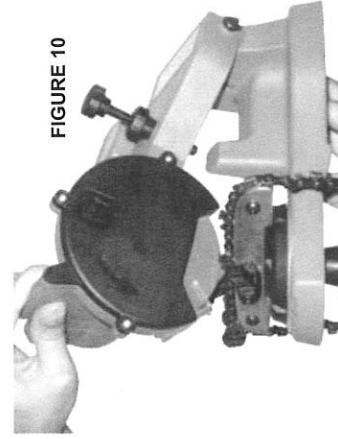

FIGURE 10
3. Slowly lower the grinding wheel as shown in **FIGURE 10**. If you notice slight errors in your settings, turn off the unit and unplug it before you make your adjustments.